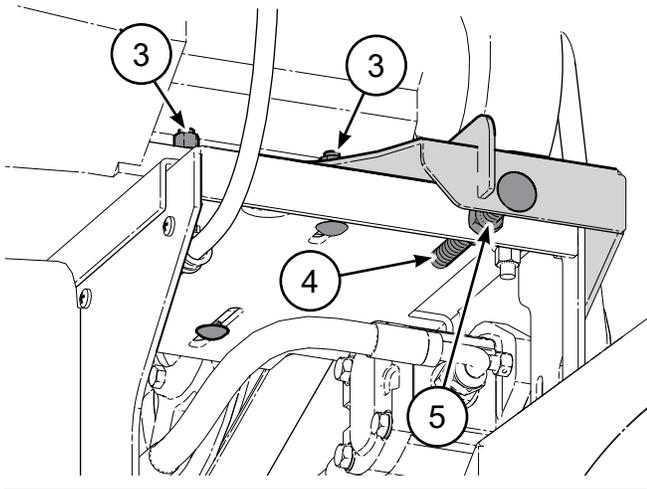

Fig. 52—Engine mount
1. Turn in the belt tension adjuster nut to set belt tension (see item 5, Fig. 52).